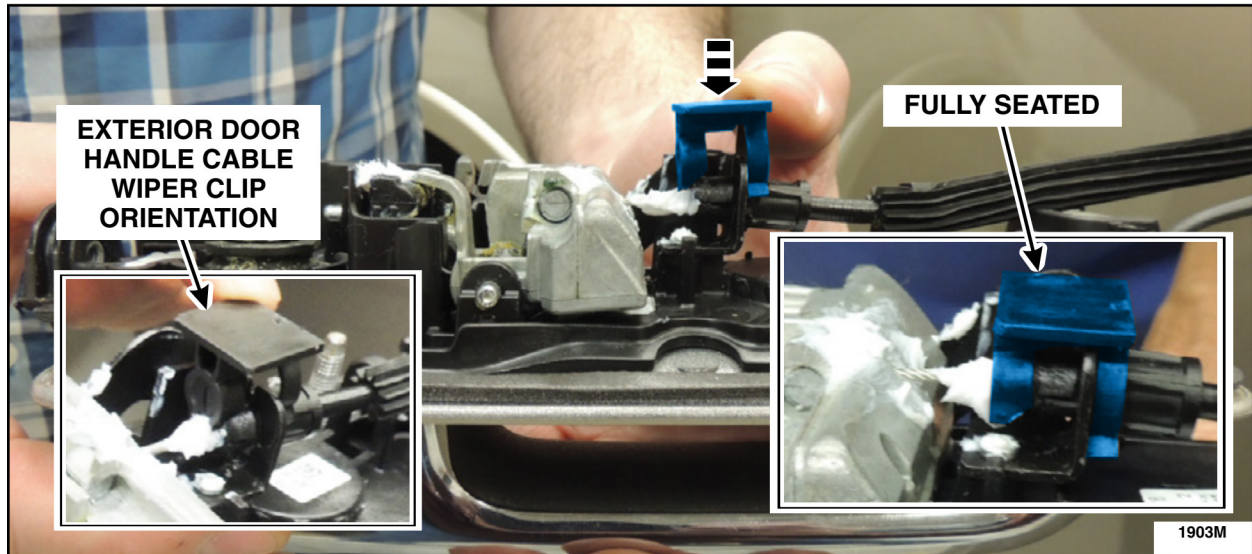

FIGURE 29
40. Install a *new* handle cable wiper clip on the exterior door handle cable end. See Figure 29.